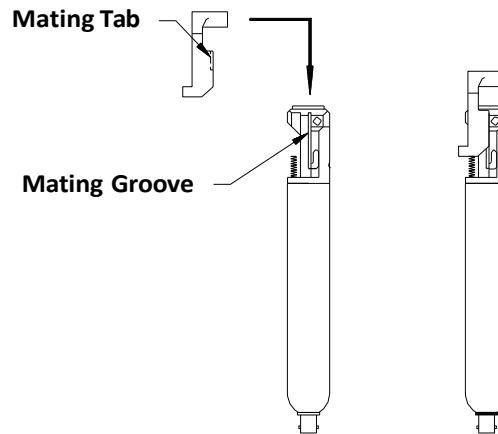

Figure 4-11, Installation of Ground Jaw onto RF Jaw/Tube Assembly
1. To reassemble the Sealing Head, slide the ground jaw onto the RF jaw/tube assembly. Note mating tabs on each of the internal sides of the ground jaw and mating grooves on both sides of the RF jaw. See Figure 4-11, Installation of Ground Jaw onto RF Jaw/Tube Assembly. *Be sure the RF power cable is disconnected from the Sealing Head.*